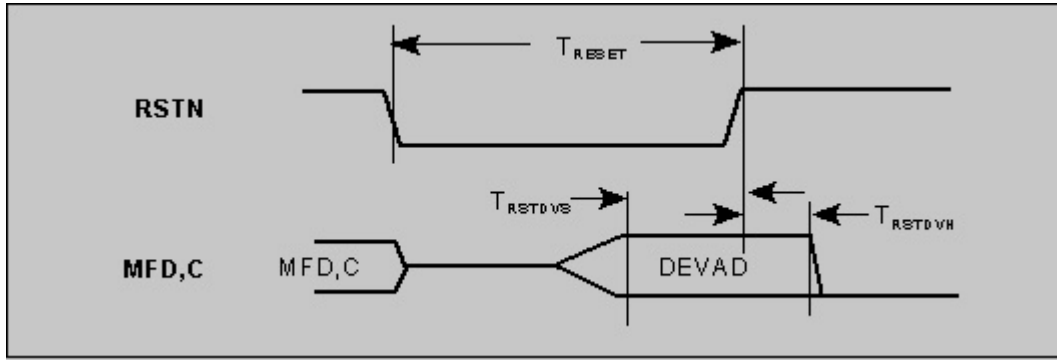

FIGURE 6-10. MDIO INTERFACE TIMING
**TABLE 6-14. MDIO INTERFACE TIMING** (from IEEE802.3ae-2002) (see Figure 6-10)